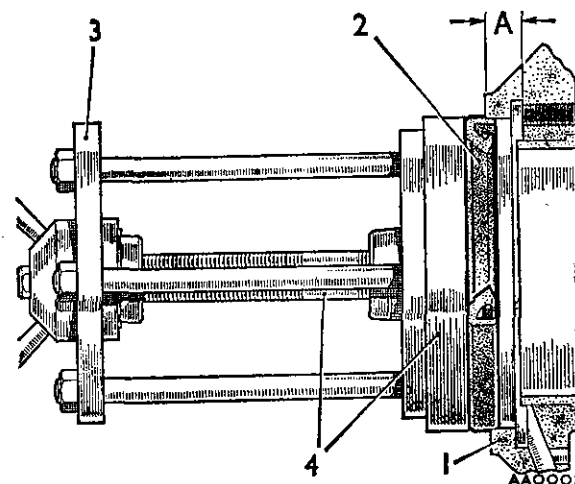

Fig. Aa.21
- (5) Take a depth measurement from any convenient point on the periphery of the housing bore of the front face of the housing to the undercut face (see Fig. Aa.21). This measurement will be approximately $\frac{3}{8}$ in. (9.5 mm.), but should it be more or less than this measurement this must be taken into account and either added to or subtracted from $\frac{3}{8}$ in. (9.5 mm.).